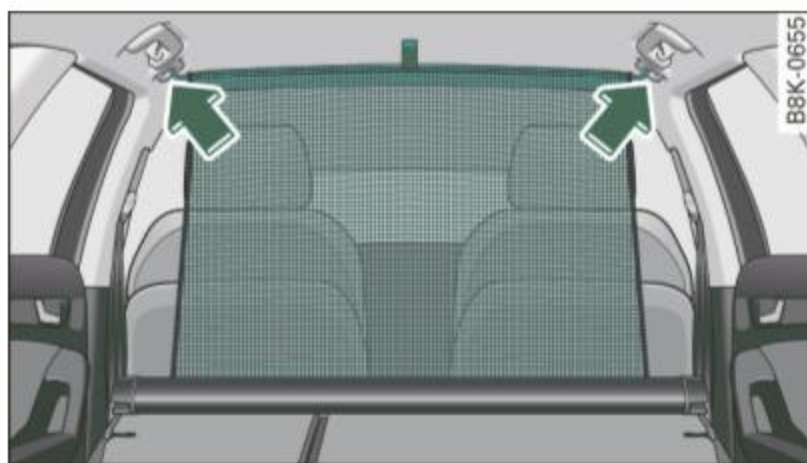

Fig. 85 Partition net hung at the front
- Hang the crossbar in the front eyelets **over the front seats** ⇒ fig. 85 -arrow-.